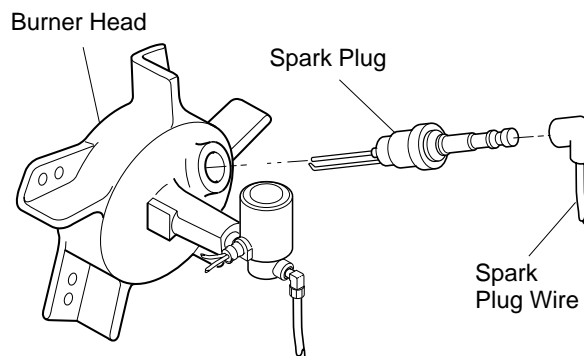

Figure 7 - Spark Plug Removal
2. Remove spark plug wire from spark plug (see Figure 7).
3. Remove spark plug from burner head using 13/16" open-end wrench (see Figure 7).